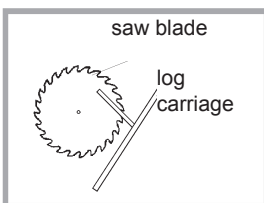

Fig. 2
- Fit the new blade on the shaft. Note direction of rotation. (see Fig. 2)